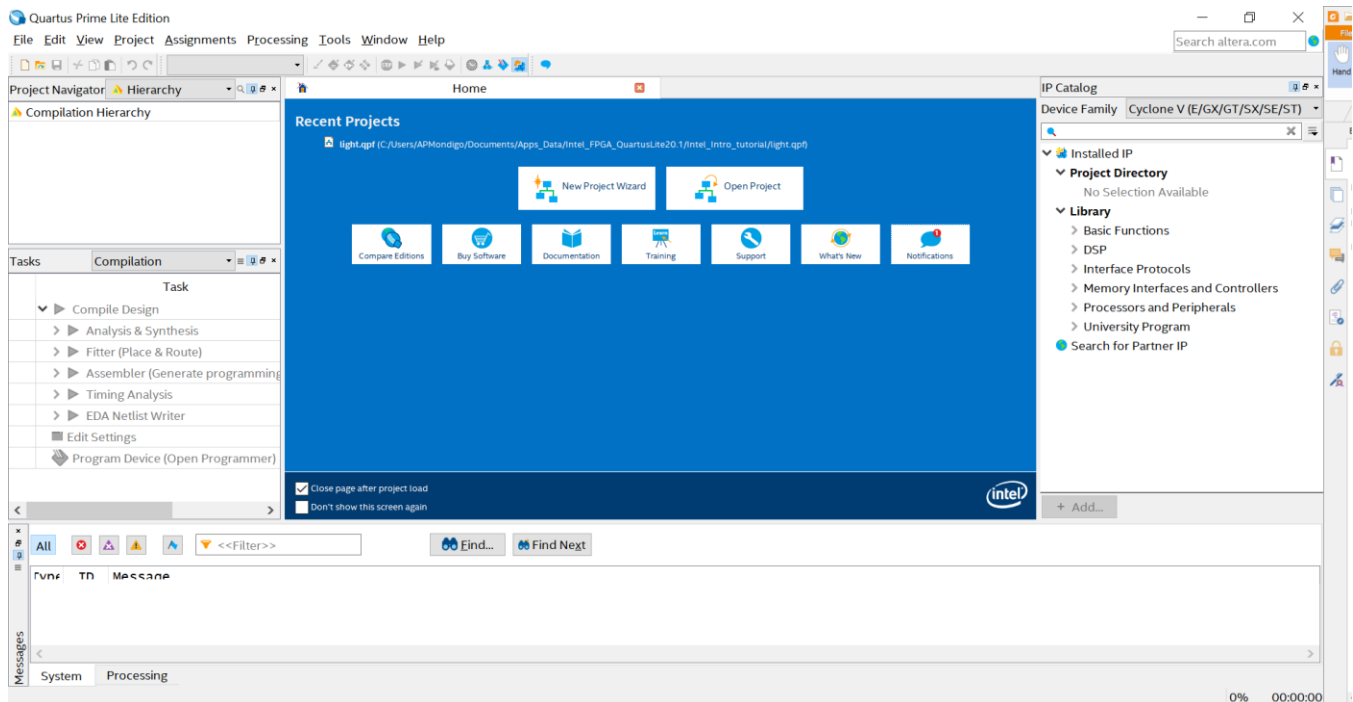
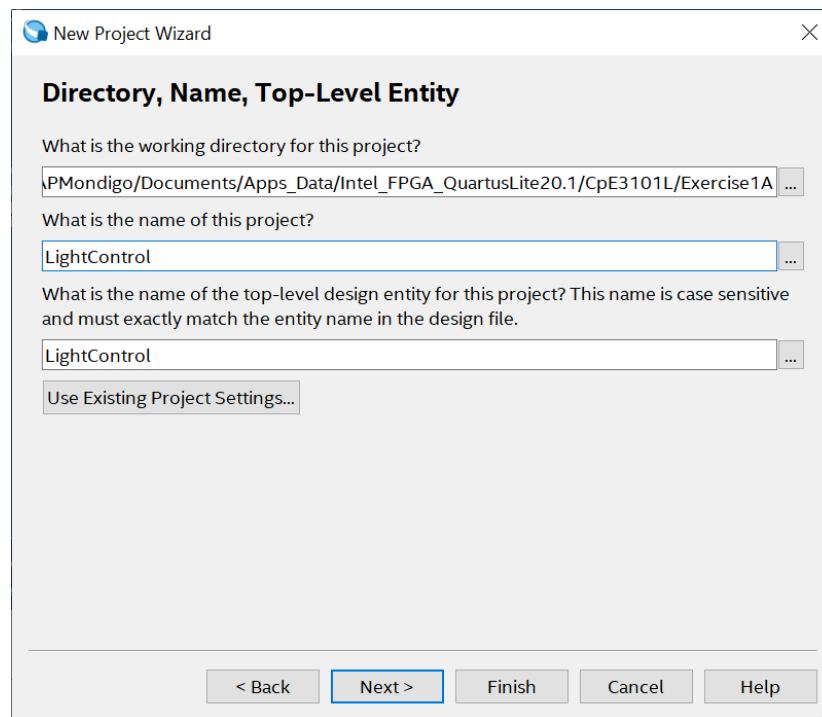

Figure 1. Main Quartus Prime Display
Figure 2. Create a New Project
1. Begin by starting the Quartus Prime software. Figure 1 shows the main display of the software. Most of the commands are accessible by the menu buttons. To start a new project, select **File > New Project Wizard** (or click the **New Project Wizard** in the Home Tab shown in Figure 1). Then, click **Next** to reach the display for setting a **working directory**, as shown in Figure 2. You may choose where you want to place your project files (any local directory in your computer). Enter the project name **LightControl** and click **Next**. If the directory does not exist, Quartus Prime software will ask for your permission to create the desired directory and click **Yes**.